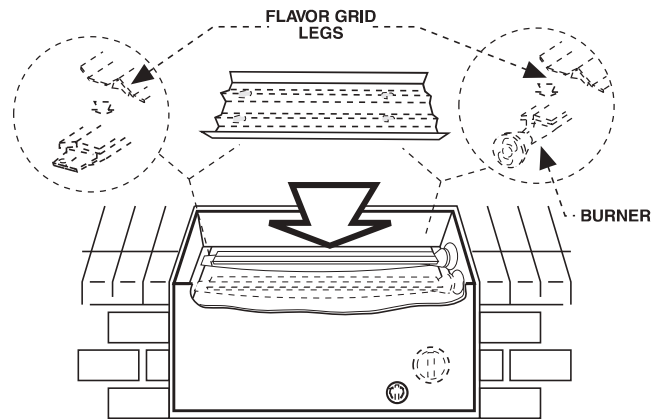

Figure 4 - Flavor Grid Diagram
d. Using a flat blade screwdriver, pry the burner retaining clip from rear wall of the barbecue frame (see Figure 4). Remove the burner by; A) Pulling it to the front of the barbecue, B) Lift the far end out of the notch, C) Pull the burner away from the manifold, taking care not to lose air shutter and spring, which may become detached when the burner is removed.
a. Place the flavor grids directly on the burners, centering the grids over the burners with the open side up (Figure 4). This allows heat from the burners to be evenly distributed throughout the cooking area. The flavor grid heats and cools quickly, making your